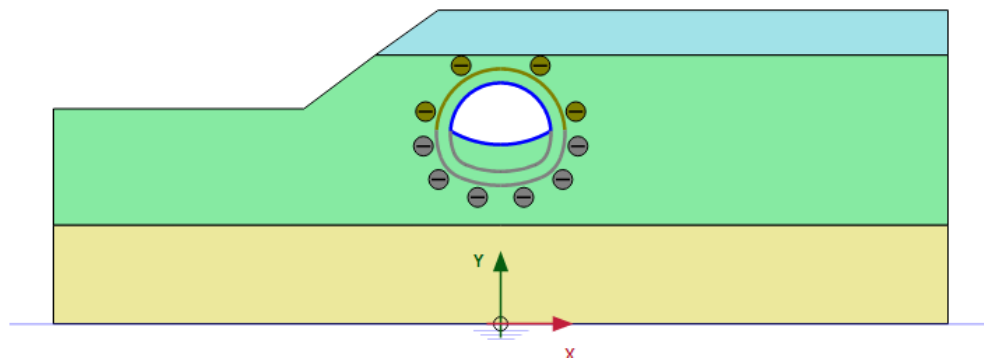

Figure 73: Configuration of Phase 2
3. Select the de-activated cluster. In the **Selection explorer** set **Deconfinement** to 100 % and the model for phase 2 is shown in Figure 73 (on page 98).